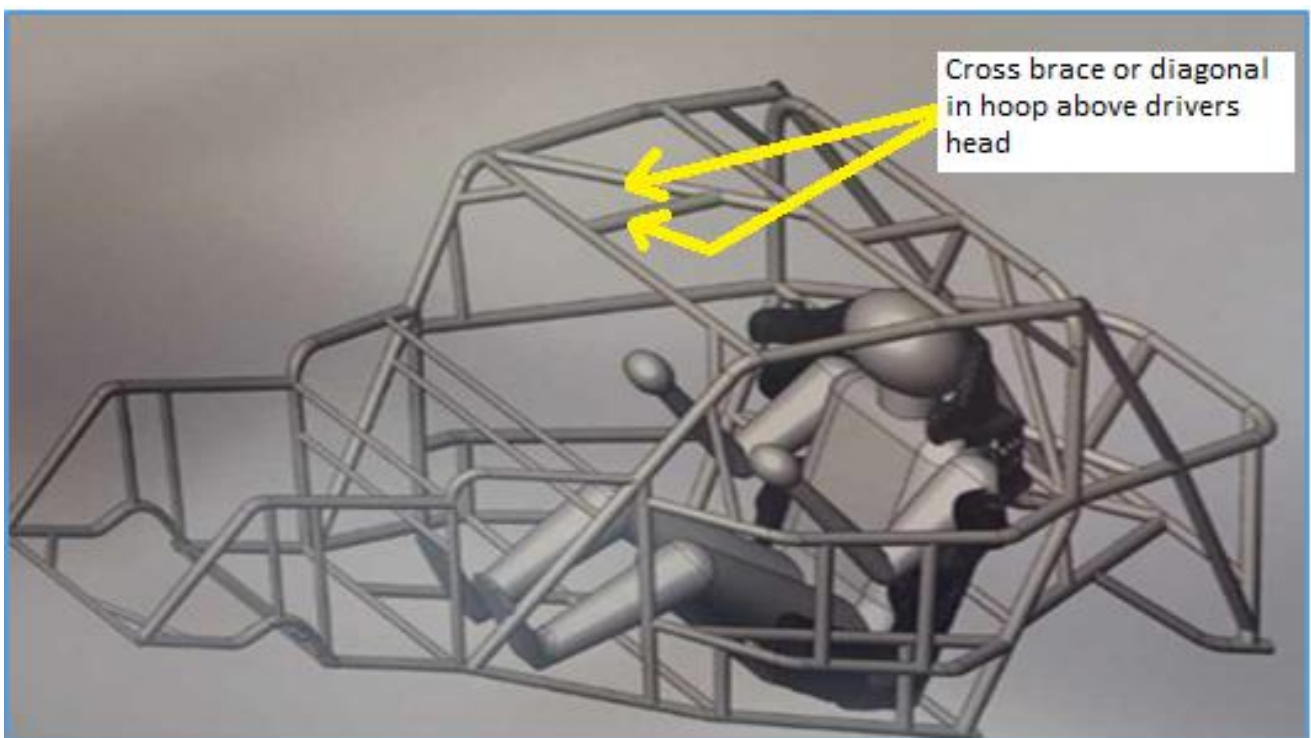

Figure 16
**24.17** Cross-brace or diagonal **mandatory** in the roof area, joining the front hoop and the hoop over driver's head. This is to minimise the roof opening and help protect the driver from impact in the roof area (*Figure 16*).